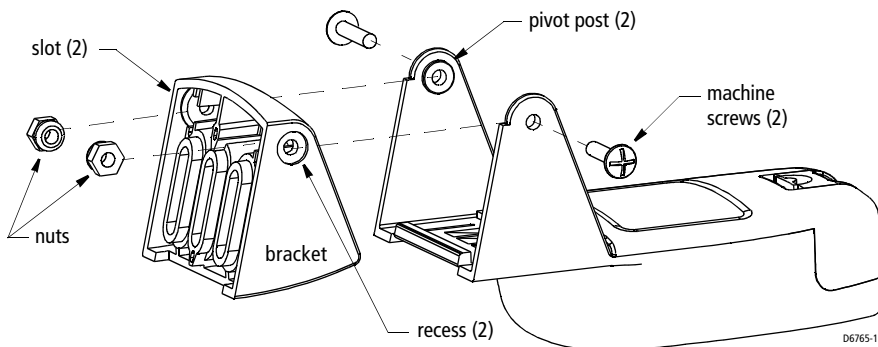

Figure 2-7: Assembling the Transducer
1. Insert the transducer's pivot posts into the recesses on the sides of the bracket (see *Figure 2-7*).
- **Stepped transom and jet boats** (3° transom angle) —Use the shim with the tapered end *down*. *Be sure* the nuts are in the slots in the back of the bracket before applying the shim (see *Figure 2-7*).
- **Small aluminum and fiberglass boats** (20° transom angle)—Use the shim with the tapered end *up*. *Be sure* the nuts are in the slots in the back of the bracket before applying the shim (see *Figure 2-7*).